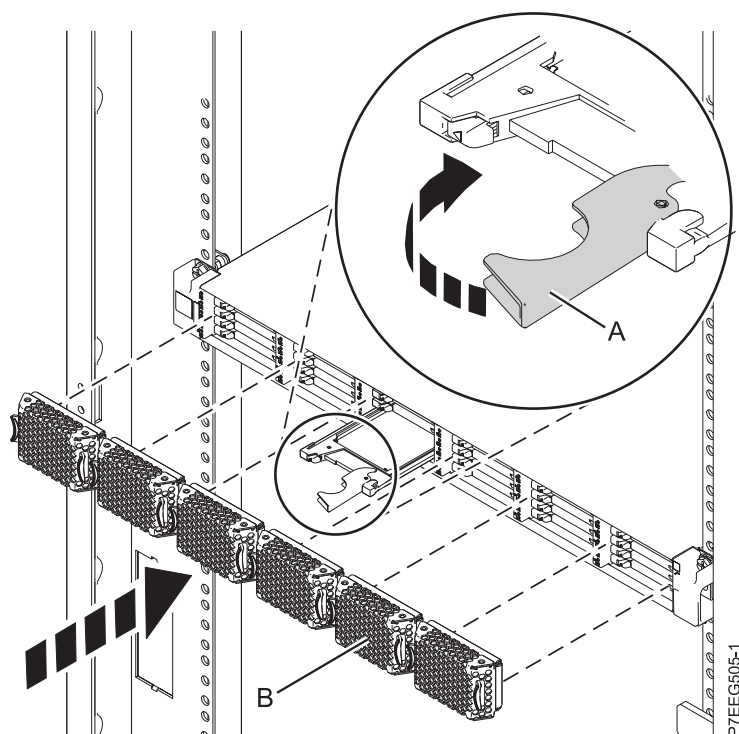

Figure 11. Installing a solid-state drive in the 58/88 PCIe storage enclosure
1. With the handle in the unlocked position, align the solid-state drive with the guide rails in the enclosure. See Figure 11 on page 21,
3. Rotate the handle (A) to the locked position, as shown in Figure 11.
4. Install the bezel (B).